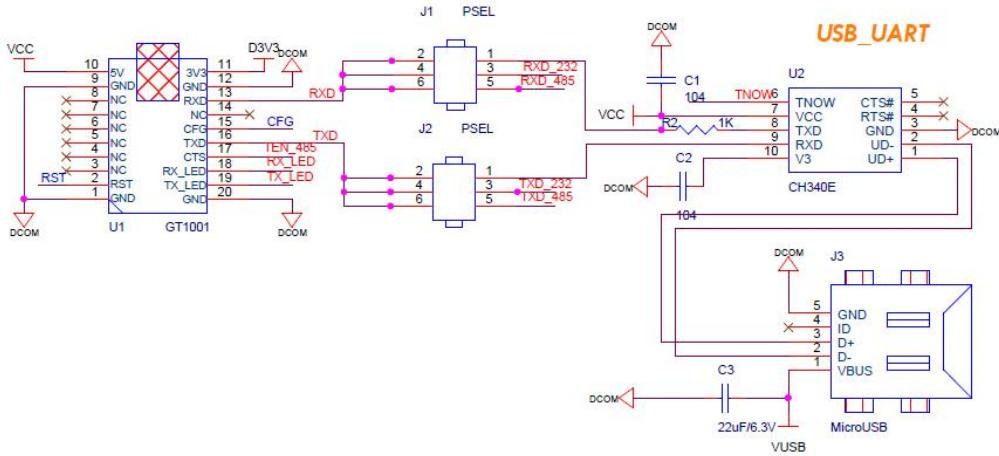

Figure 4-1 TTL to UART Reference Design
- 1) Select J1 and J2 in Figure 4-1 at < 3,4 > jumpers respectively;
- 1) Select J1 and J2 in Figure 4-1 at < 5, 6 > jumpers respectively;